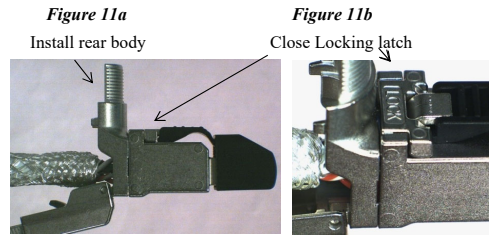

Figure 12 To change orientation, open Locking latch
- 10) Confirm correct connector orientation. If orientation needs to be changed, open the Lock latch using a small screwdriver (Fig. 12). Re-install rear body into the front body, in desired orientation, until flush with front body. Close the Locking latch tab (Fig. 11b) until it snaps shut. Lock should be flush with body (Figs. 11a & 11b).